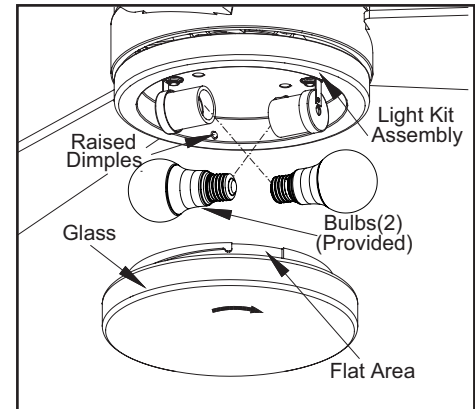

Figure 12
4. With power off, install the two LED bulbs by screwing into the light bulb sockets. (Figure 12)
5. Place the glass shade into the light kit assembly, aligning the three flat areas on the top flange of the glass shade with the three raised dimples in the light kit assembly. Turn the glass shade clockwise until it stops. (Figure 12)